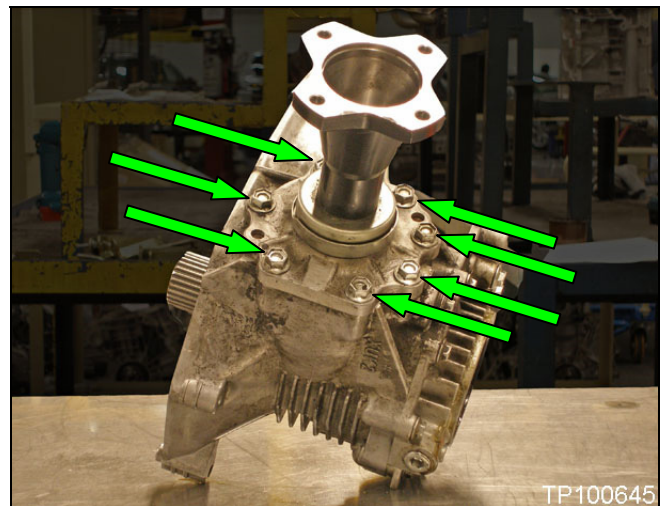

Figure 1
4. Remove the seven (7) bolts securing the pinion sleeve assembly to the transfer case (see Figure 1).